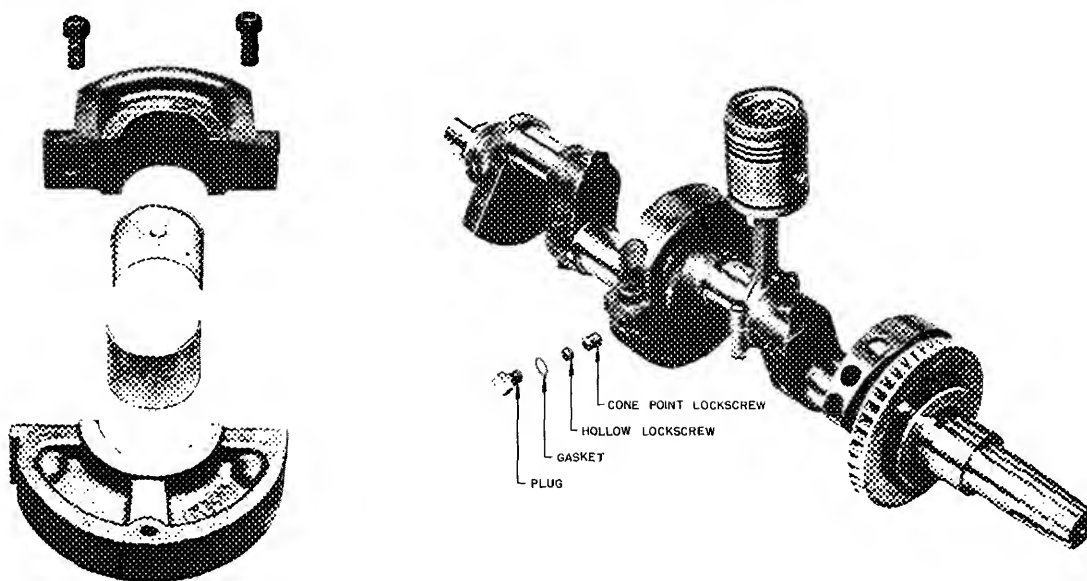

FIG. 45 - CENTER MAIN BEARING (5H120)
6. Remove the screws and take apart the bearing housing. Mark the parts so they can be reassembled in the same relative position. (See Fig. 45.)